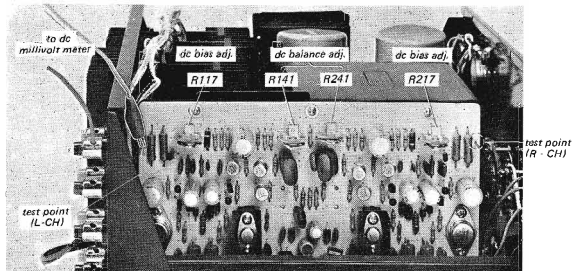

Fig. 3-1 Connection point of dc millivoltmeter and parts location
To avoid accidental power transistor damage, increase the ac line voltage gradually (using a variable transformer) while measuring the voltage across the test point and the hot side of the speaker binding post as shown in Fig. 3-1.
2. Connect the dc millivoltmeter between the test point on the power-amplifier board and the hot side of the speaker binding post, as shown in Fig. 3-1.